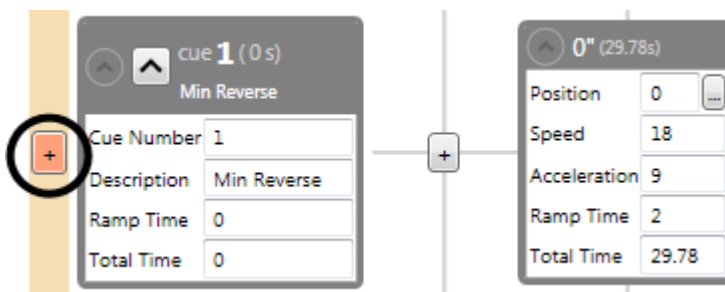

Figure 162
1. Click the **Add Link** button next to the **Child Cue** (Figure 162).